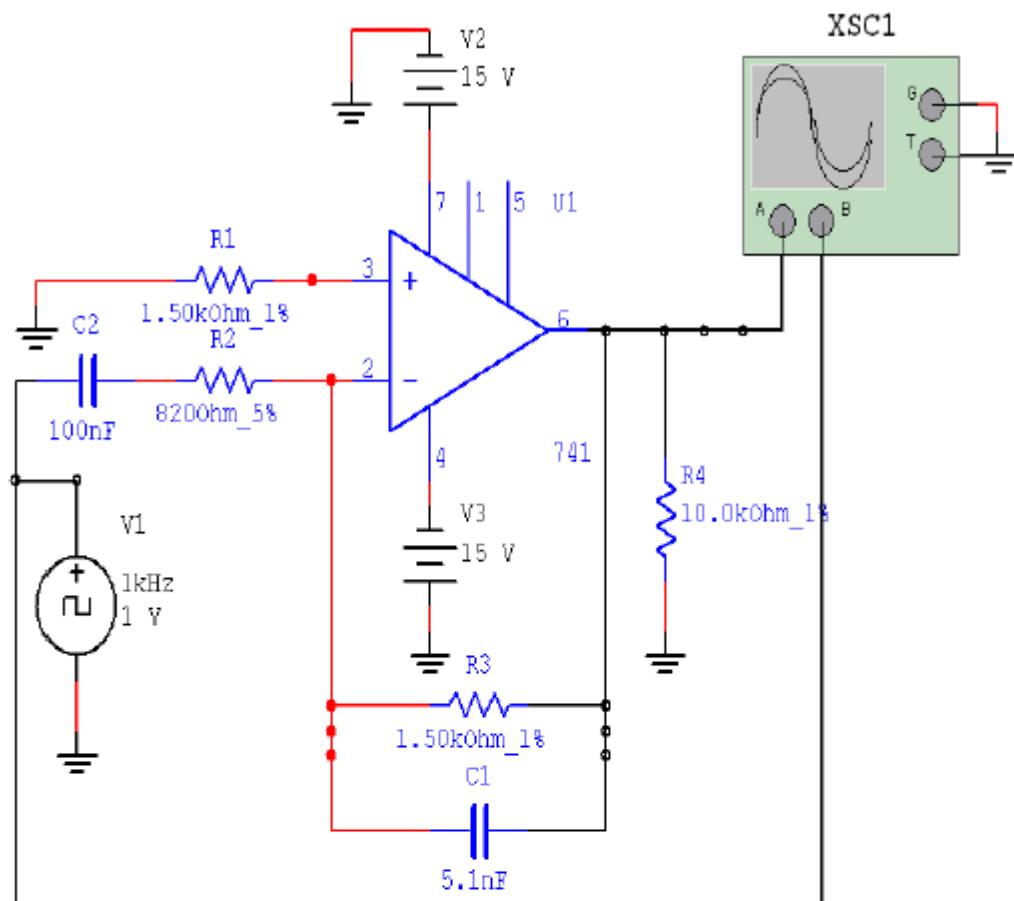

Fig.22 Differentiator-Based Operational Amplifier
- Construct the circuit shown in Fig.22.